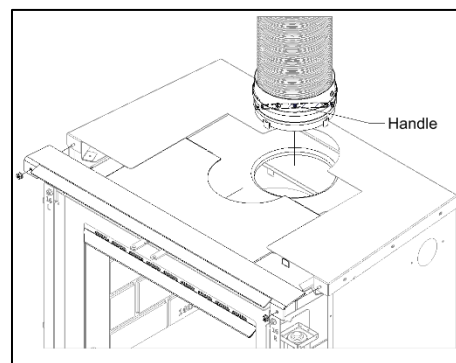
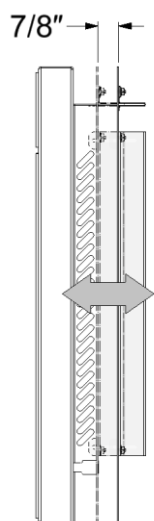

Figure 3-8: Circulating Chamber Top Removable Bracket
Figure 3-9: Adjustable Backplate
- Align the liner adaptor with the top opening of the circulating chamber. Note that the top/front portion of the circulating chamber can slide off to allow for better access to the liner adaptor – unfasten the #8-32 serrated flange nuts (2X) on the front bracket (Figure 3-8).
The backplate can be adjusted by up to 7/8 inches on the LUMIS surround. Before continuing with the installation, it is necessary to measure the gaps (distances G1 and G2 might be slightly different) between the masonry and the LUMIS surround. Install the LUMIS surround temporarily and refer to the Figures 3-8 and Figure 3-9 to take the measurements. Make sure to note them for future use.